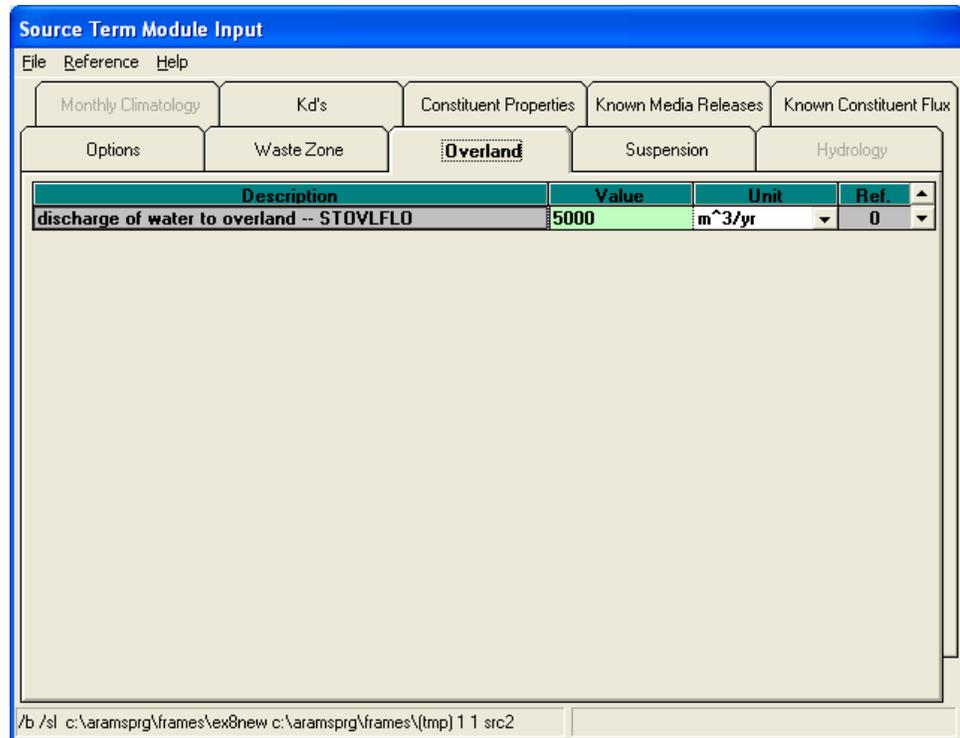

Figure 11. MEPAS Source in Soil Model – Overland tab
- *Overland Tab (overland flow data) – Figure 11*